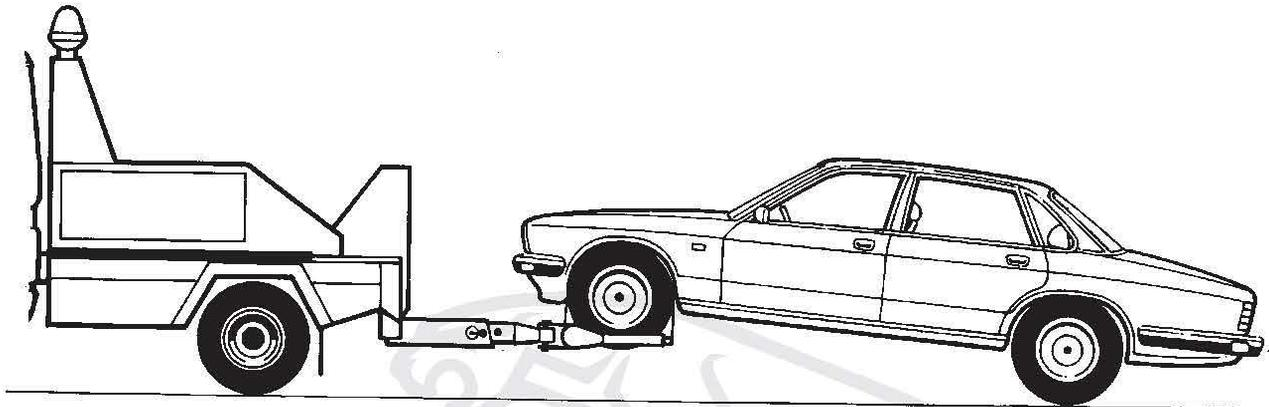

FIG.2
b) Suspended tow (Figs. 2 and 3):